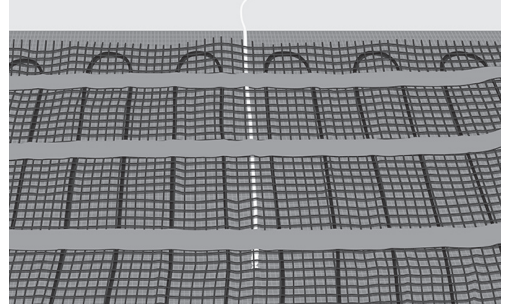

Fig. 7. Place conduit pipe/sensor between the cables
11. Place and fix conduit pipe or floor sensor if no conduit pipe is installed. Make sure to position the pipe/sensor between two heating cables (Fig. 7).